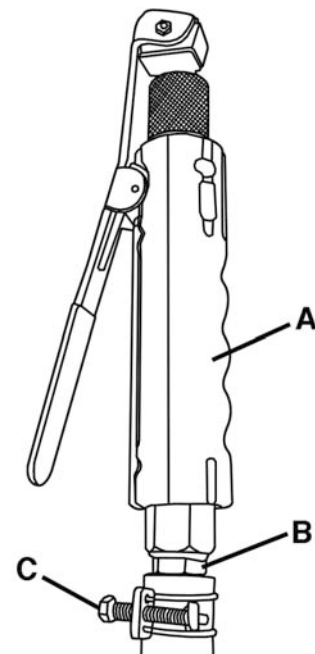

Figure 3
Locate the media gun (A) Fig.3 and the supplied teflon tape. Place teflon tape around the threads of the media hose adaptor (B) in a clockwise direction and screw the media gun onto the adaptor. Make sure the media gun is tightened securely to the adaptor and also make sure the screw (C) of the wire clamp is tightened properly.